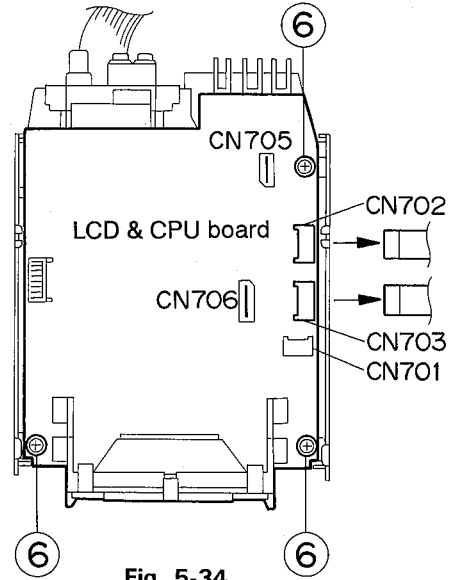
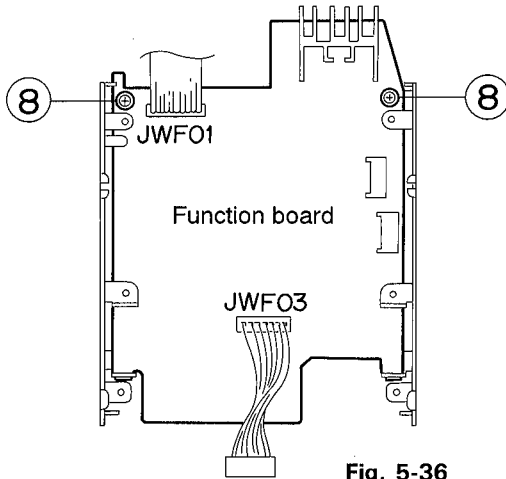
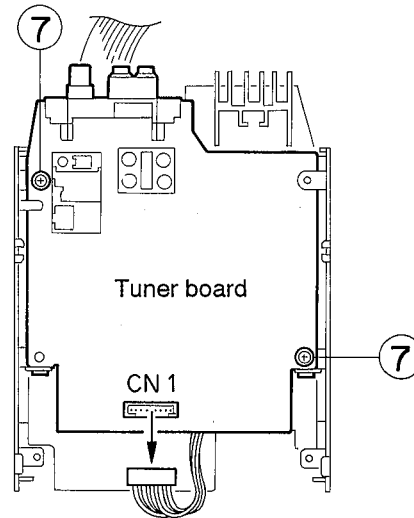

Fig. 5-34
Fig. 5-36
Fig. 5-35
1. Removal of LCD & CPU P.C. board (See Fig. 5-34)
- Remove the three screws (6) retaining the LCD & CPU P.C. board, and after disconnecting the card wires respectively from the connectors CN702 and CN703, dismount the LCD & CPU P.C. board.
2. Removal of tuner P.C. board (See Fig. 5-35)
- Remove the two screws (7) retaining the tuner P.C. board, and after disconnecting the harness from the connector CN1, dismount the tuner P.C. board.
3. Removal of function P.C. board (See Fig. 5-36)
- Remove the two screws (8) retaining the function P.C. board, and dismount the P.C. board.